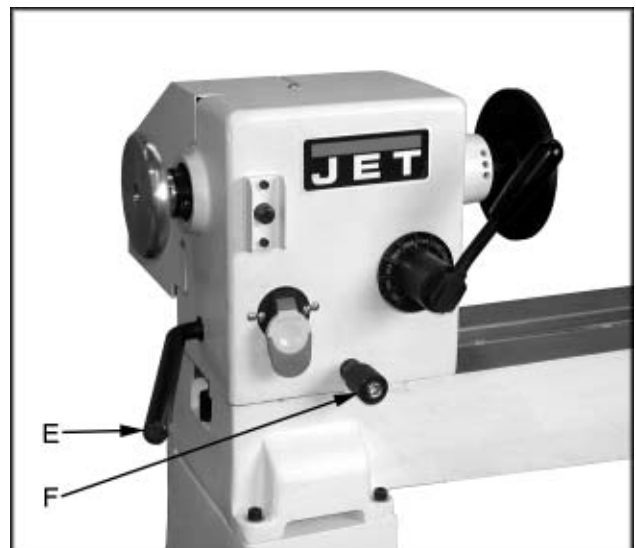

Fig. 4
- E. **Headstock Lock Handle:** (E, Fig. 4)
- F. **Headstock Indexing Pin:** (F, Fig. 4)